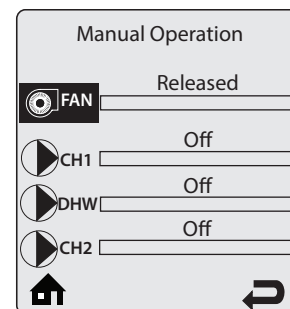

Fig. 8: CTRLMax Manual Operation
4. Press the CENTER button while the FAN icon is highlighted to manually fire the burner and power the CH circulator. See Fig. 8